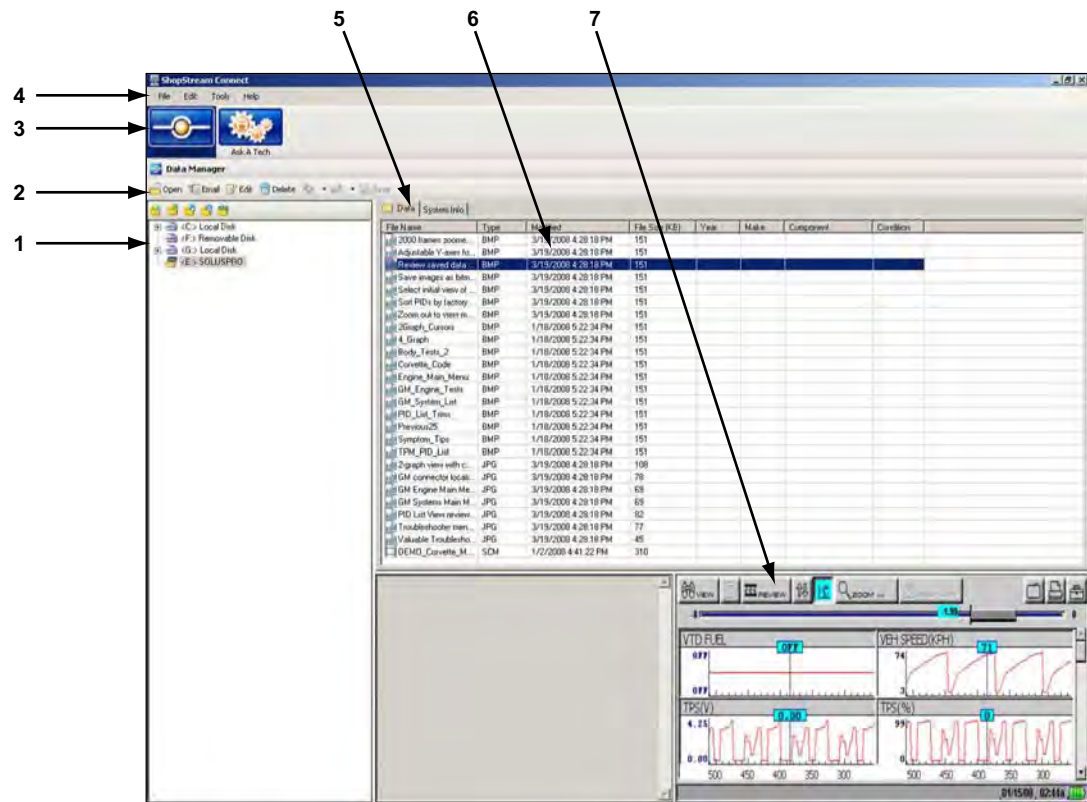

Figure 2-31 Sample Exit selection
2. Select **Exit** from the dropdown menu (Figure 2-31).